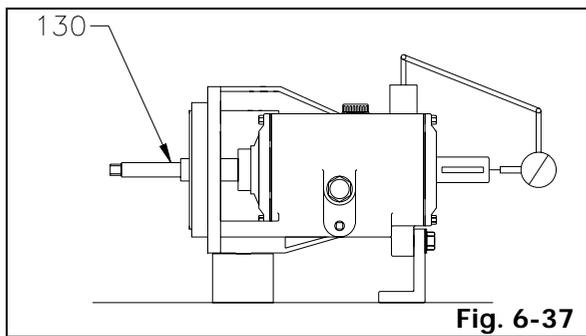

Fig. 6-37
14. Check bearing (310 for KS-SR or 311 and 312 for KS-SG) axial clearance. Move shaft (130) forward then backward by hand, noting indicator movement. If total indicator reading is greater than 0.05mm, disassemble and determine cause (Fig. 6-37).